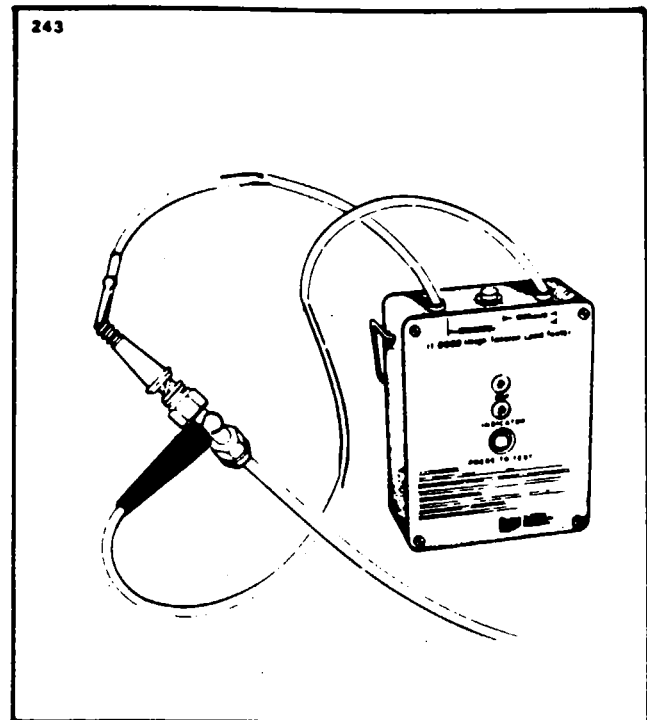

Figure 74-21. Checking Harness Lead Insulation Resistance
A. Attach the red high voltage test lead to contact spring of harness lead. (Refer to Figure 74-21.)
B. Attach the black test lead to the ferrule of the same harness lead. (Refer to Figure 74-21.)